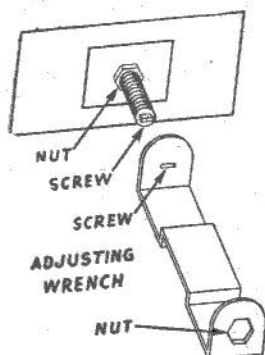

FIG. 5. Coaxial trimmers. The nut adjusts the antenna trimmer, the screw adjusts the oscillator trimmer.
► You may sometimes meet coaxial (one inside the other) adjustments like that shown in Fig. 5. Special wrenches are made for these, like the one shown.